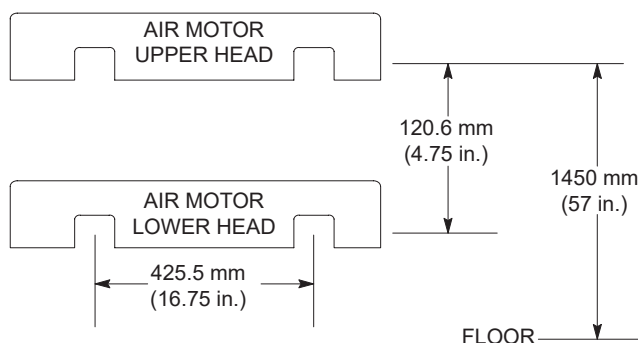

Figure 3-1 Mounting Slot Pattern
1. Mounting slots are provided in the upper and lower heads. Install the pump in an area accessible for operation and maintenance. Use four hex head 1/2-in. bolts to mount the pump to the wall or to a vertical stand. See Figure 3-1 for mounting slot pattern.